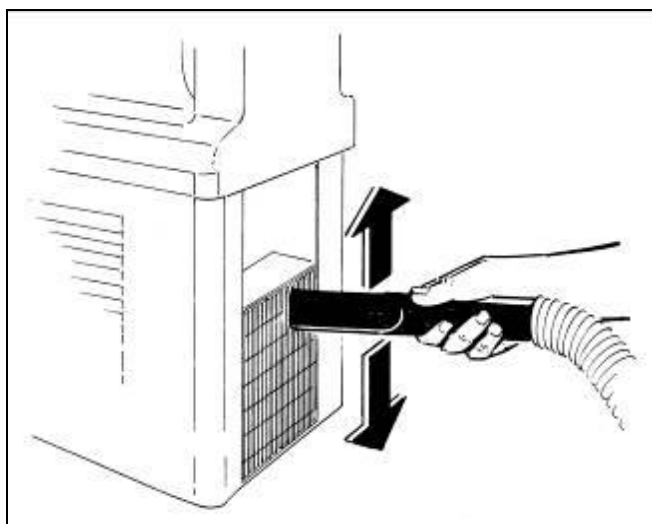

Fig. 28
- Using a dust exhauster, remove the dust that has collected between the condenser fins (fig.28).